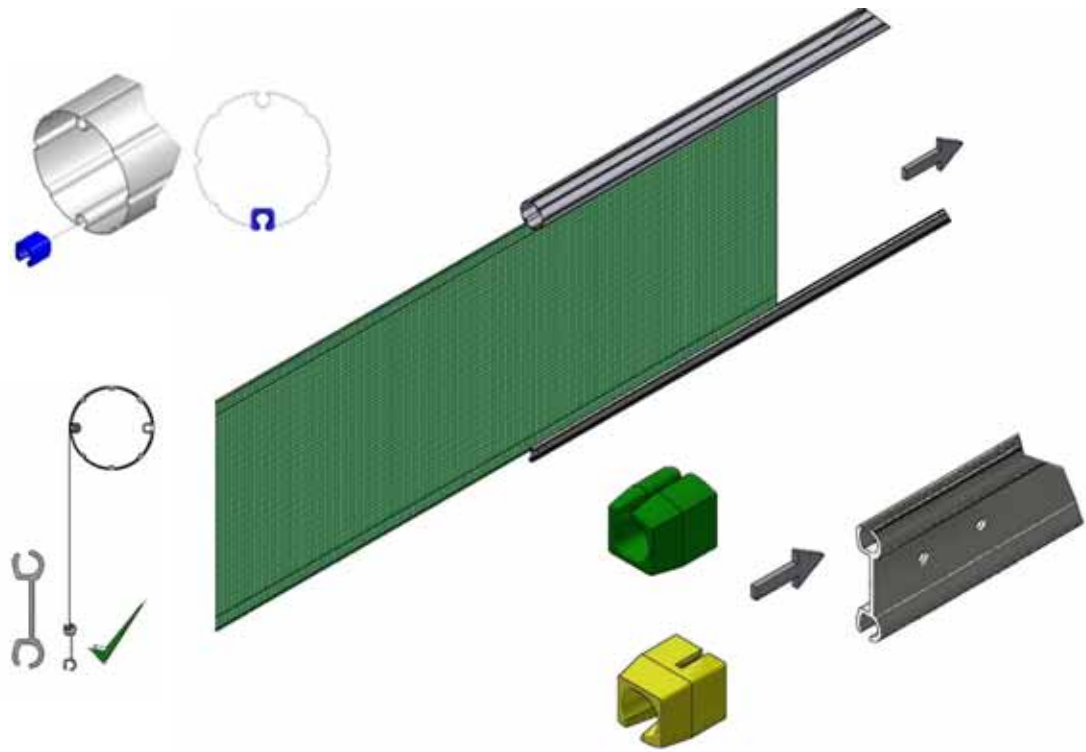

Figure 6a, Panel Assembly
- 5 Slide the fabric panel into the flute on the top tube and then slide the tension bar onto the fabric panel. Note the correct orientation of the tension bar relative to the door arrangement (Figure 6a)